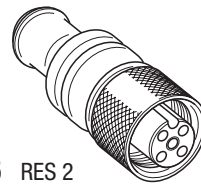

Fig. 25 RES 2
- If two or more system components are connected in a CAN bus system, provide the first and the last device with a terminating resistor of 120 Ω, **Fig. 24, Fig. 25**